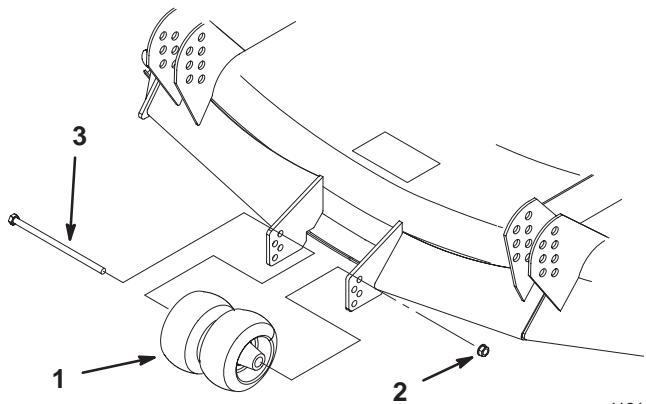

Figure 16
1. After adjusting height-of-cut remove bolt and nut (Fig. 16).
2. Select a hole position so the gage wheel is 3/8 inch (9.5 mm) off the ground for the height-of-cut to be used (Fig. 16).
3. Reinstall the bolt and nut (Fig. 16).